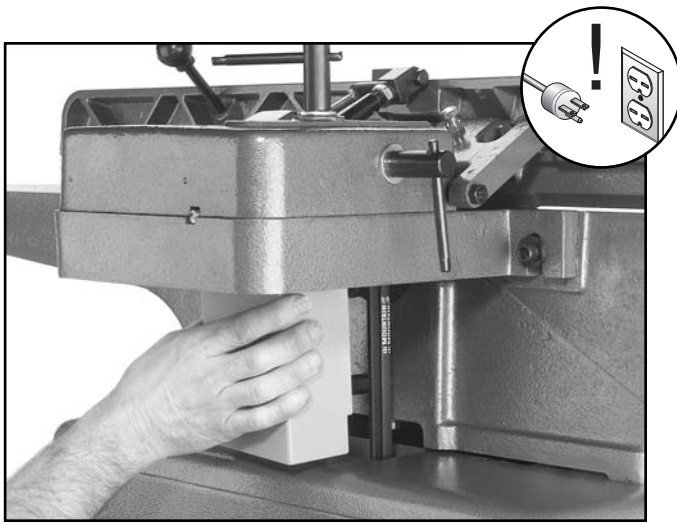

Figure 27. Removing belt guard.
2. Remove the belt guard shown in **Figure 27**.